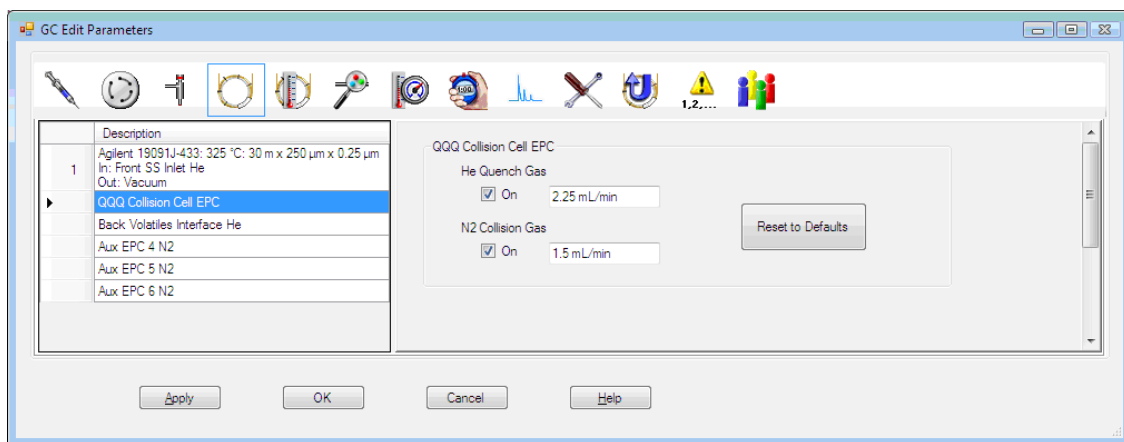

Figure 12 Setting collision cell gas flow rate
- 2 Click the **CFT** icon to display the **CFT** screen. See Figure 12.